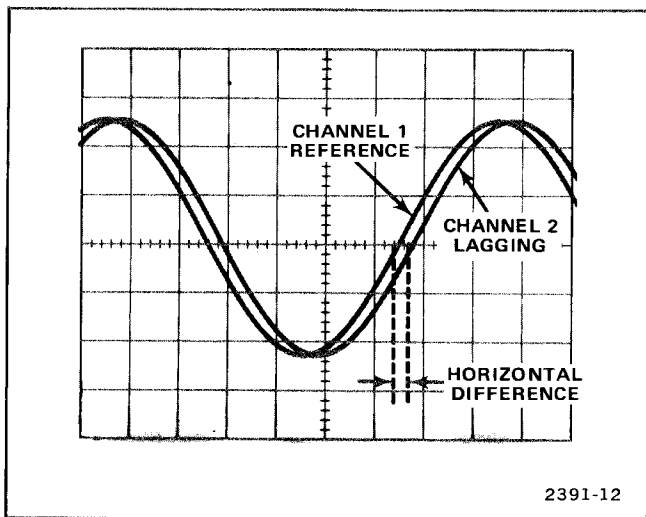
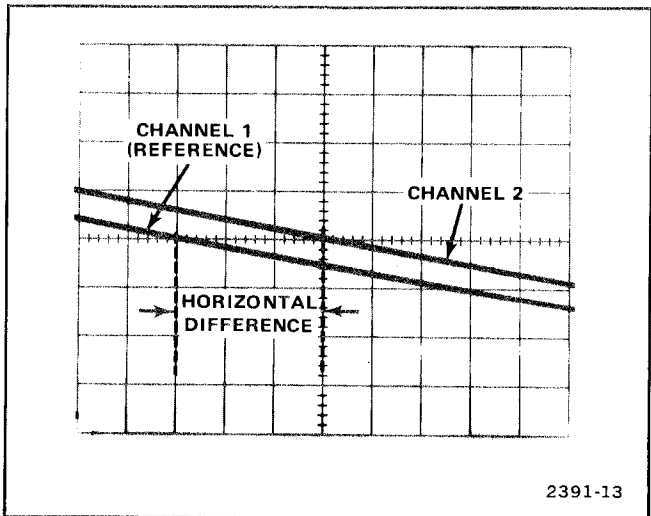

Figure 1-6. Measuring phase difference between two signals.
Figure 1-7. High resolution phase measurement using time-base magnifier.
8. Adjust the time-base Variable Time/Div control until one cycle of the reference signal occupies exactly eight horizontal divisions between the second and tenth vertical lines of the graticule (see Fig. 1-6). Each division of the graticule represents 45° of the cycle (360° ÷ 8 divisions = 45°/division). The sweep rate can now be stated in terms of degrees; for example, 45°/division.
EXAMPLE: Assume a horizontal difference of 0.3 division with a sweep rate of 45°/division as shown in Figure 1-6.
EXAMPLE: If the sweep rate is increased 10 times by the Magnifier, the magnified sweep rate is 45°/division ÷ 10 = 4.5°/division. Figure 1-7 shows the same signals as used in Figure 1-6 but with the Magnifier set to X10. With a horizontal difference of 3 divisions, the phase difference is: